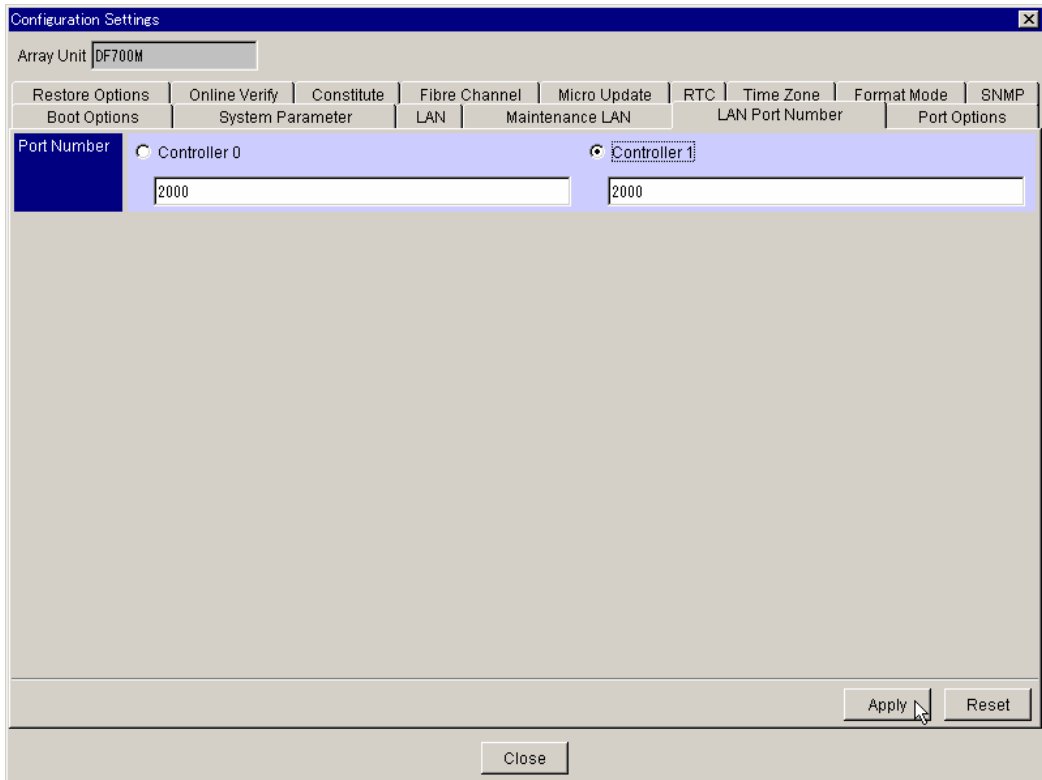

Figure 5.27 Setting LAN Port Number
3. Click the **LAN Port Number** tab (see Figure 5.27).